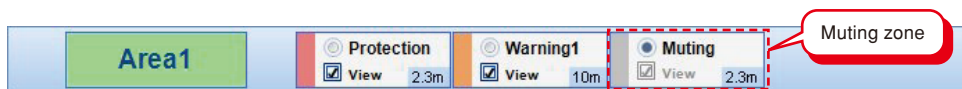

Figure 7-48. Select muting area
- d) After the Muting function is enabled, [Muting] will be shown on the [Displayed Area] panel as shown in figure 7-48 to configure muting zone.